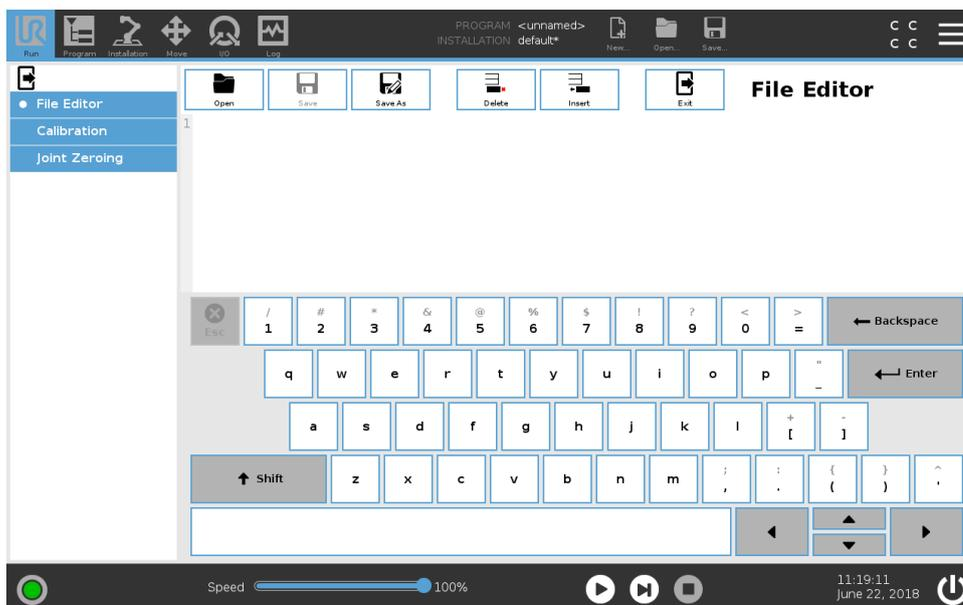

Figure 2.7: Select **Calibration** in **Expert Mode**.
- (12) In the menu on the left, tap **Calibration**. See Figure 2.7.